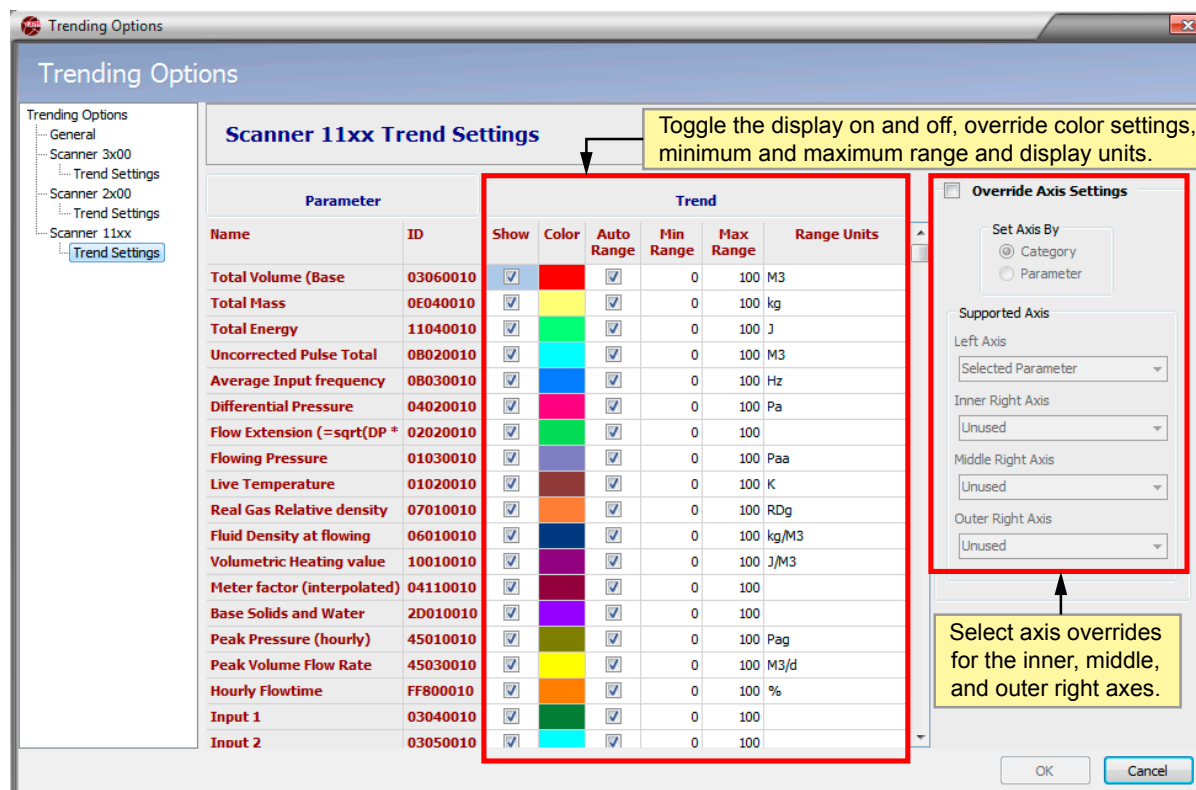

Figure 2.11—Scanner 11xx Trending Options dialog
- Select the parameters to appear on the trend graph (Figure 2.11).